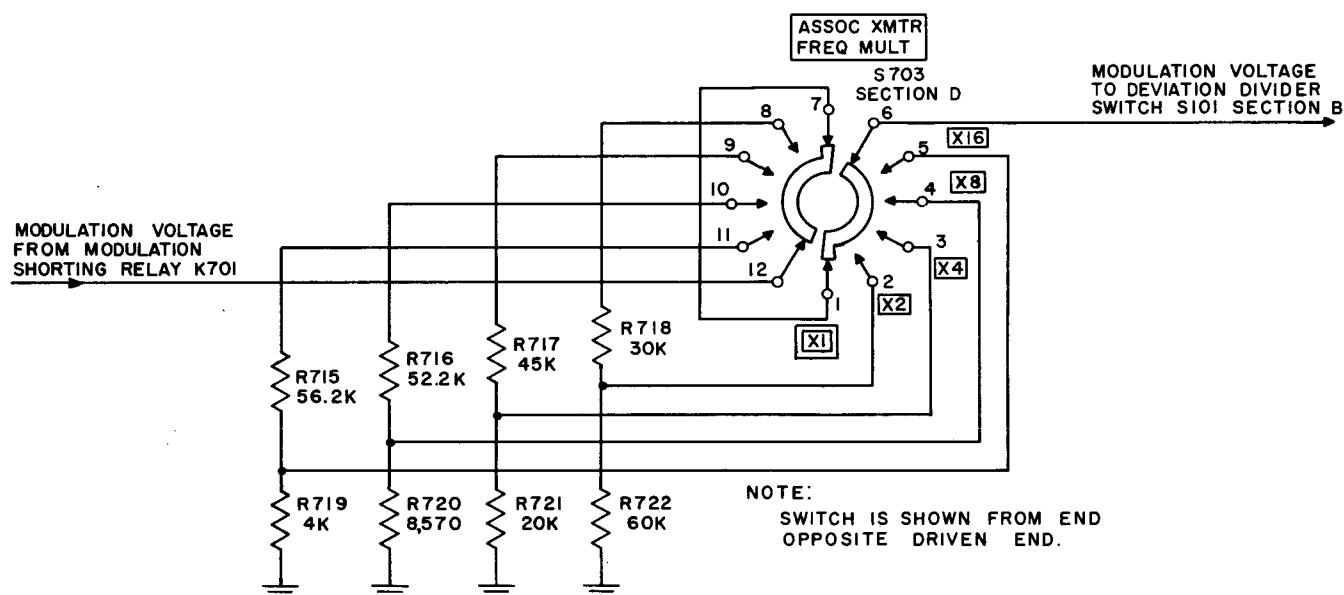

Figure 41. ASSOC XMTR FREQ MULT switch S703 section D, simplified schematic diagram.
74. ASSOC XMTR FREQ MULT Switch S703 Section D (fig. 41)